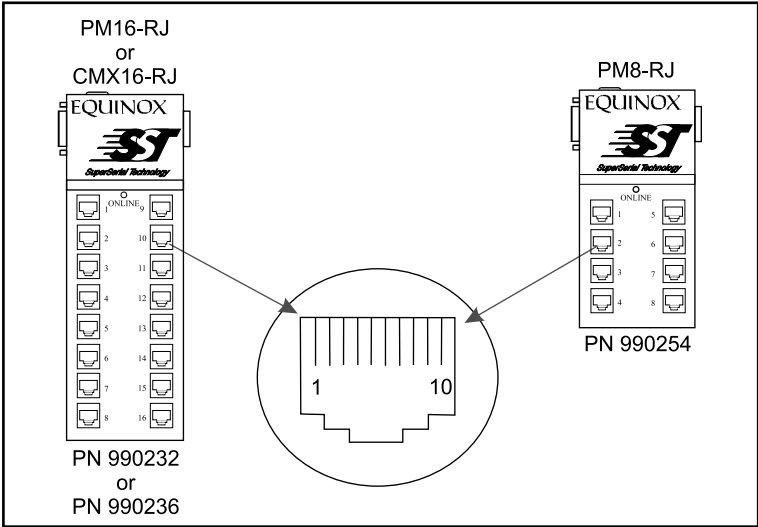

Figure 5-8. PM16-RJ, PM8-RJ and CMX16-RJ Port Connector Orientation
The PM16-RJ, PM8-RJ and CMX16-RJ ports provide standard RS-232 DTE signals on all RJ-45 modular jacks (10-pin), one for each device to be connected as shown in Figure 5-8 .
- All jacks on the PM16-RJ, PM8-RJ and CMX16-RJ units face the front of the product with the key pointed down. Refer to Figure 5-8 for the modular jack wiring orientation.